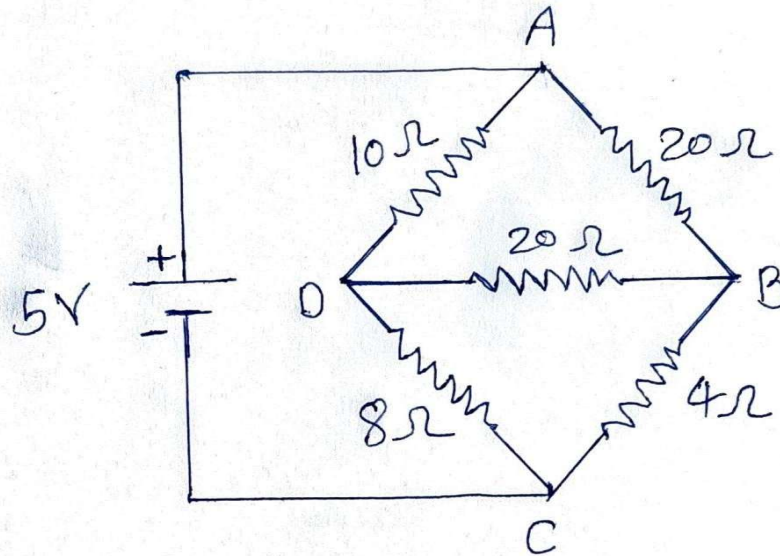

Fig: 1
- (c) Using Thevenin's theorem find current in branch BD of the network shown in Fig. 1 07